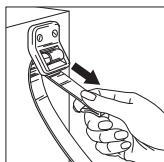

Figure 6
- Pull strap on furniture bracket until all slack in the strap is eliminated. Do this for both straps. (Fig. 6)